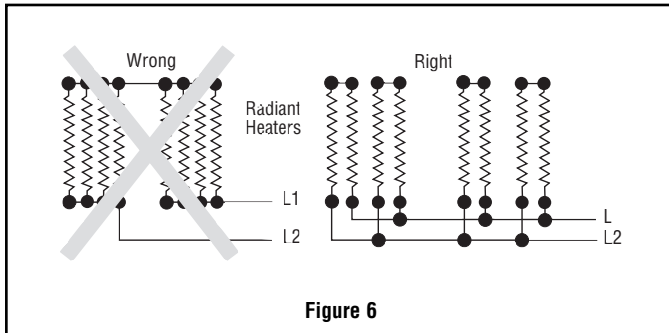

Figure 6
8. **SERIES CONNECTION** of Radiant Heaters of equal volt and watt rating is permitted in all line voltages up to 600 volts. In making such series connections it is necessary to observe the “right” (series-parallel) connection rather than the “wrong” (parallel-series) connection both shown in Figure 6. If heaters are connected according to the “wrong” illustration, failure of any heater will cause progressive failure of other heaters still operating.